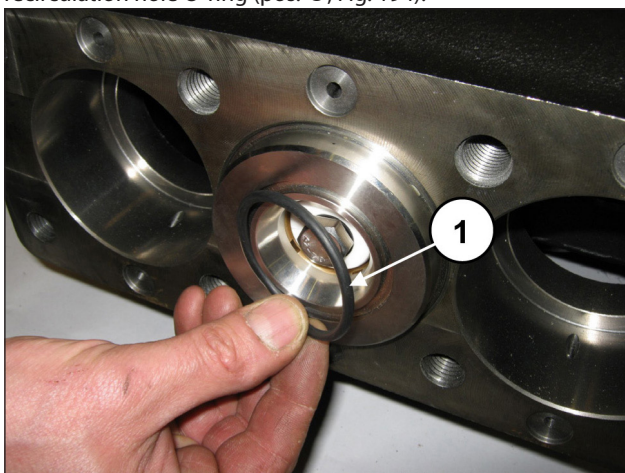
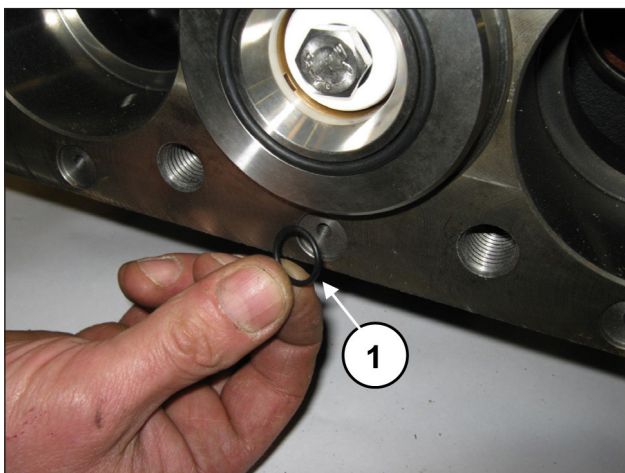

Fig. 193
Fig. 194
Install the front O-ring in the liner (pos. ①, Fig. 193) and the recirculation hole O-ring (pos. ①, Fig. 194).